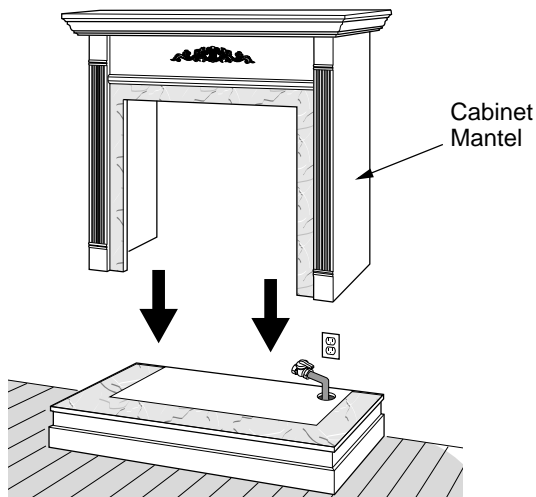

Figure 10 - Installing Cabinet Mantel
6. Center cabinet mantel on hearth base (see Figure 10, page 9). Make sure mantel is flush against wall.